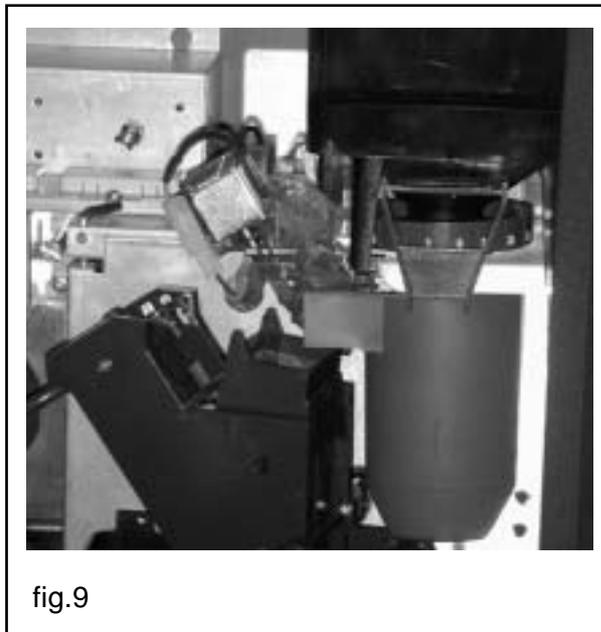

fig.9
- the solenoid is activated, and the stirrer is directly dispensed into the cup through a special channel (fig.9).
- the group rotation gearmotor moves the group onto the brewing position and compresses the coffee tablet (fig.9).